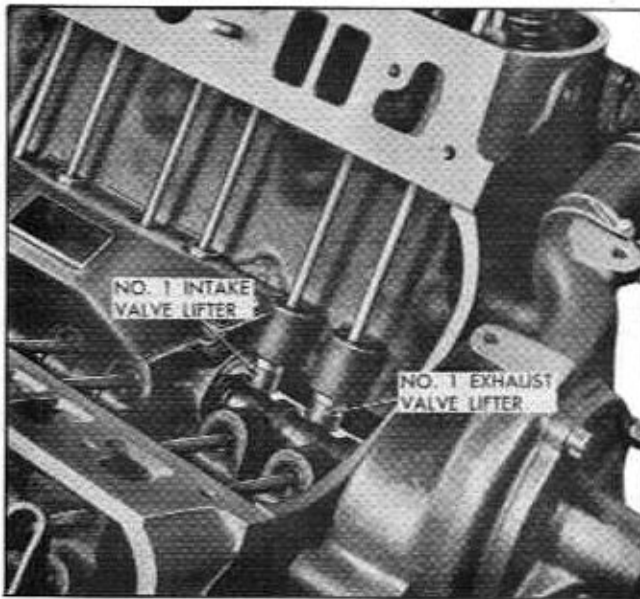

Fig. 6-77 Relationship of Lifters and Cams When Cylinder No. 1 is in Firing Position
a. Turn crankshaft to firing position of number one cylinder (number one exhaust and intake valve lifters both on the base circles of their cams (Fig. 6-77) and timing mark on harmonic balancer indexed with pointer).